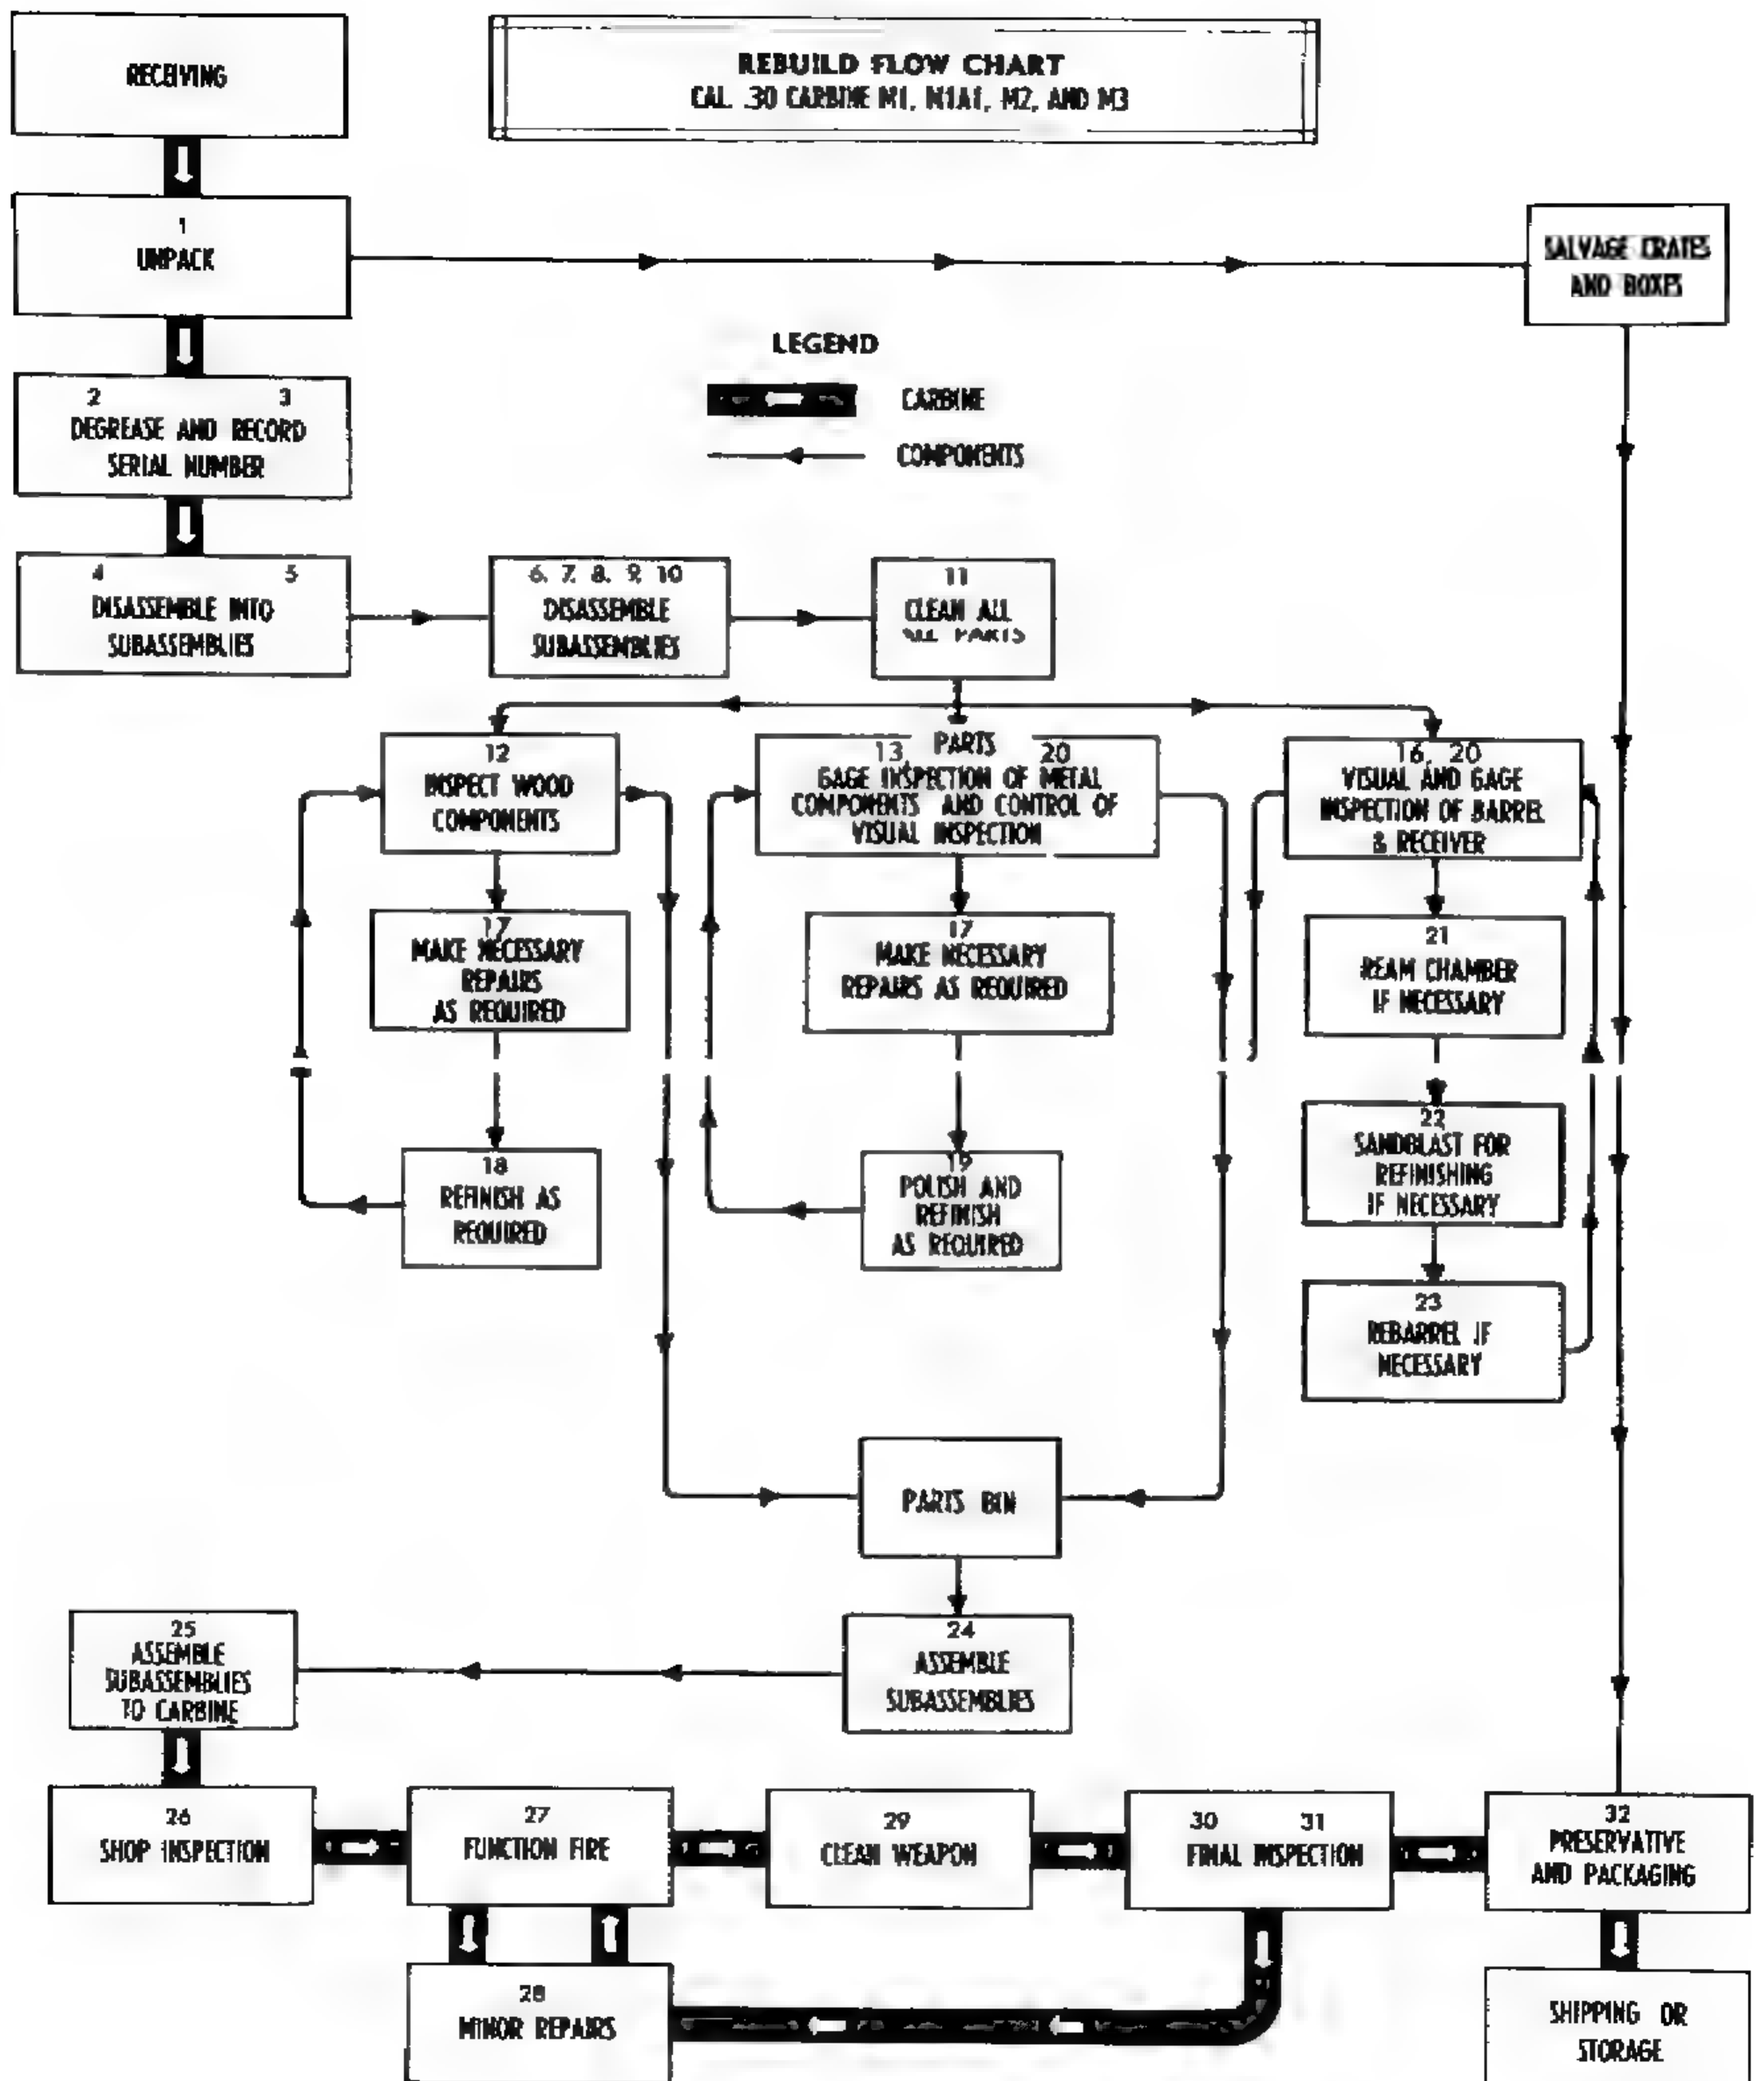

Figure 43d. Assemblies comprising the weapon shown in relative positions.
b. In this manual, the main groups of the weapon are disassembled, inspected, replaced or repaired, and assembled. For information on removal and installation of groups, see page 13. A group is a number of parts or assemblies, or both, which either function together or are intimately related to each other and should be considered together (Fig. 43d).